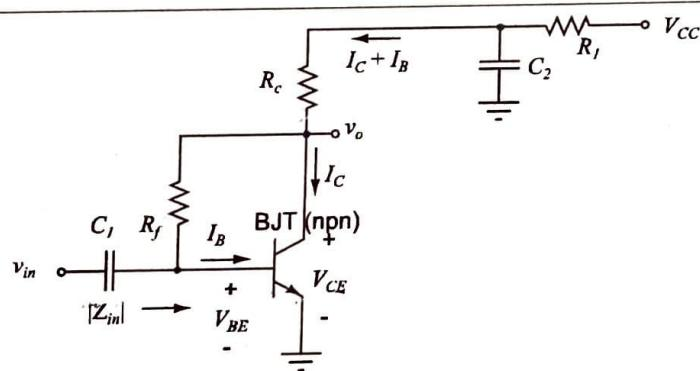

Figure 1: Schematic of an RF amplifier using a BJT.
1. An RF amplifier can be built using a BJT. Refer to the circuit given in Fig. 1. TRC-11 uses two of such amplifiers. The values of the resistors and capacitors should be calculated as described below.
- The first RF amplifier circuit to be built is the first IF amplifier. A schematic diagram of the first IF amplifier is given in Fig. 1. Mount the three leads of the transistor Q50